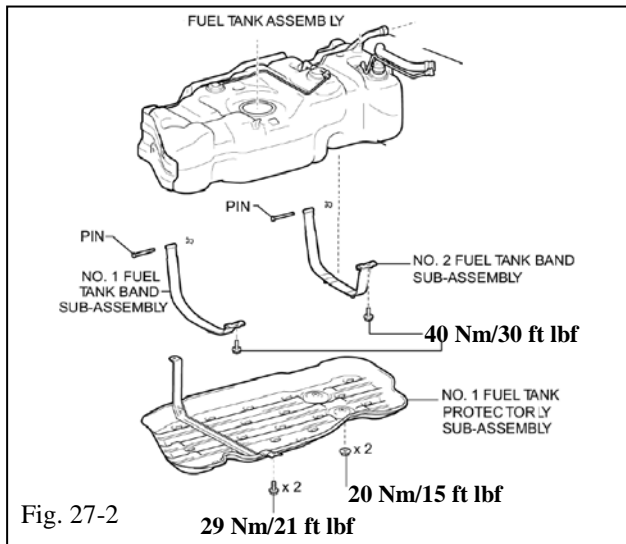

Fig. 27-2
- S** (c) When reinstalling the fuel tank assembly, use the torque specifications indicated in Fig. 27-2.